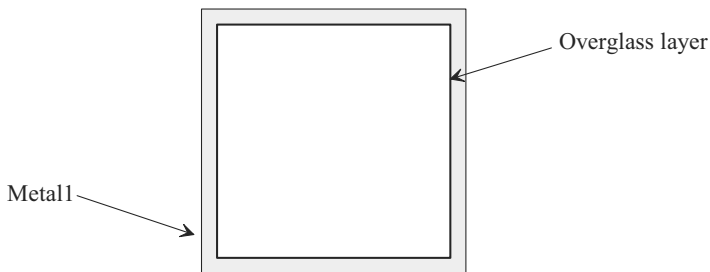

Figure 3.26 Layout used in Problem 3.4.
- 3.4 Sketch the cross-sectional view for the layout seen in Fig. 3.26.